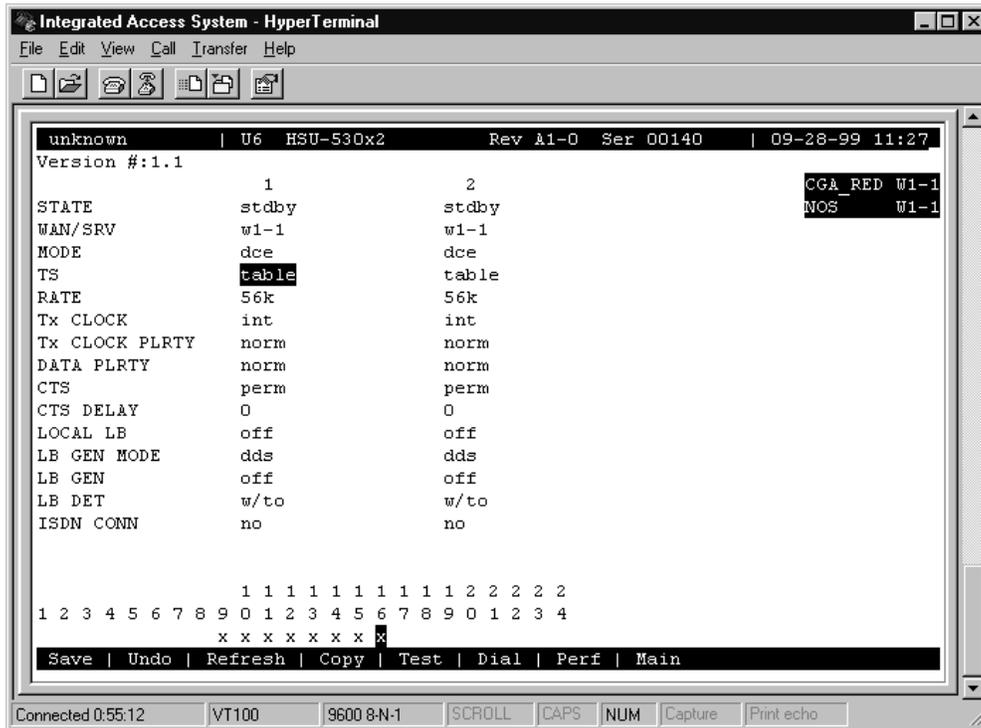
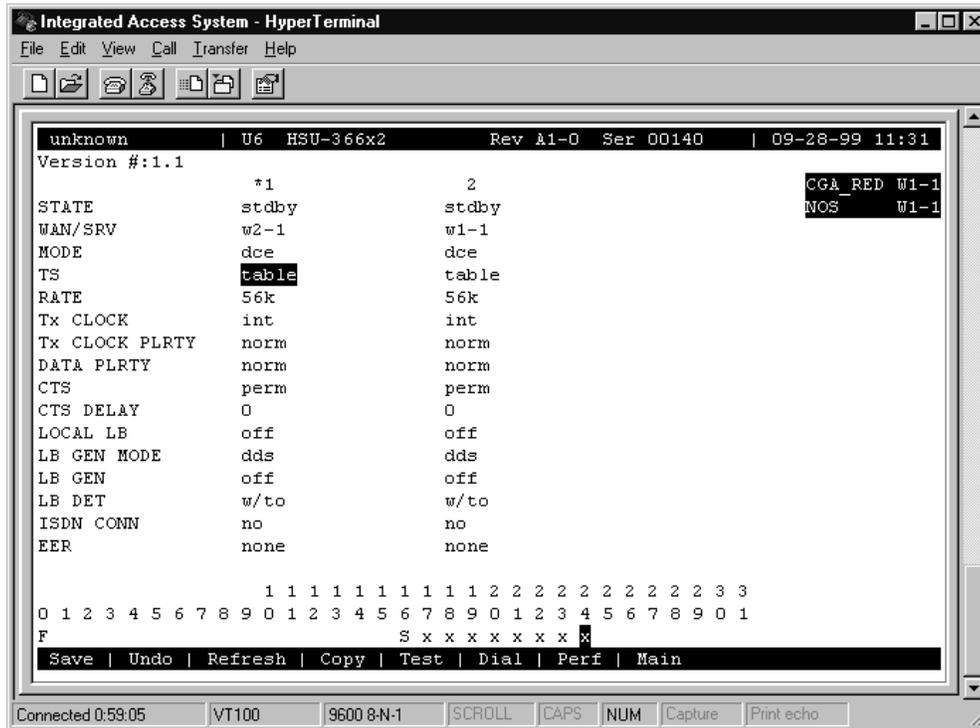

Figure 4-20. Typical HSU Card Time Slot Assignments for T1
Figure 4-21. Typical HSU Card Time Slot Assignments for E1
Figure 4-20 shows the HSU Card Main Screen for the time slot assignment example. Assign time slots to this card as follows:
2. Select the WAN port to which you want to assign the HSU port. In Figure 4-20, this port is **W1-1** (for WAN 1, port 1).
4. Place an “x” under each desired time slot, using the space bar to either select or de-select a time slot. Use the right arrow key to move to the next time slot (TS) for selection. Then, press <Enter>. In Figure 4-20 (for T1), the HSU port is assigned eight time slots (9 to 16). In Figure 4-21 (for E1), the HSU port is assigned eight time slots (17 to 24).